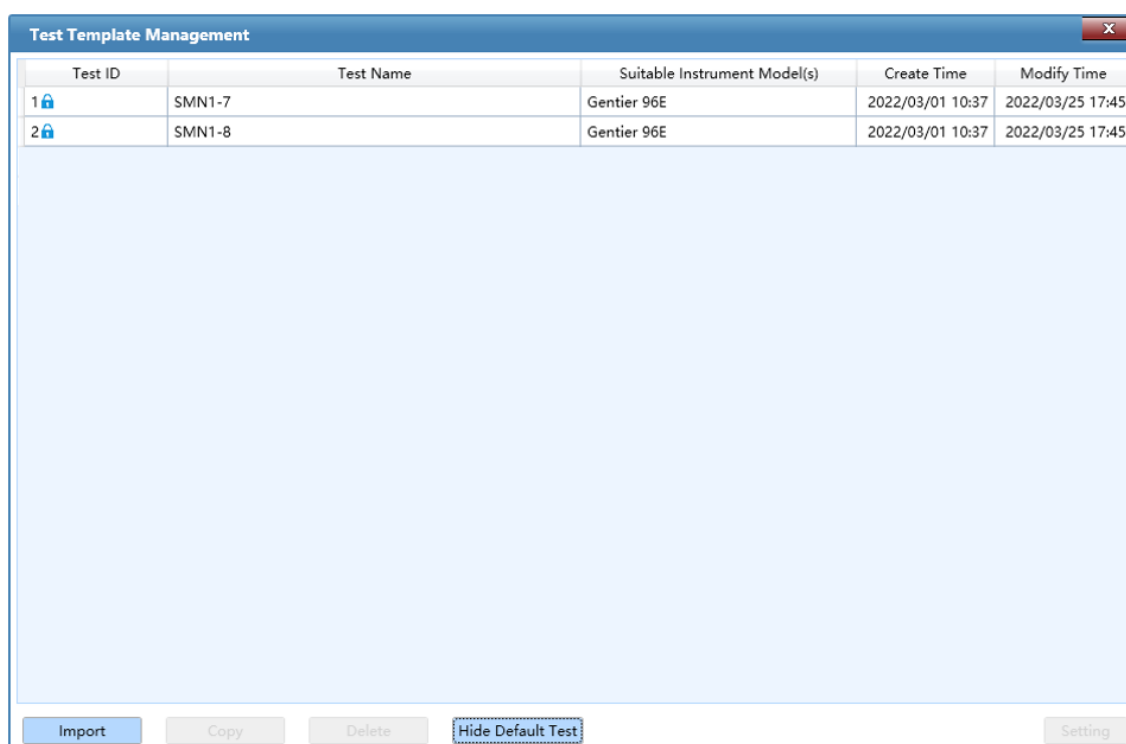

Figure D-3.6. Test Template Management
5. **Test Template Management**: click the **Test Template Management** in **Tool** submenu and the application software will automatically pop up the test template management interface, as shown in figure D-3.6.